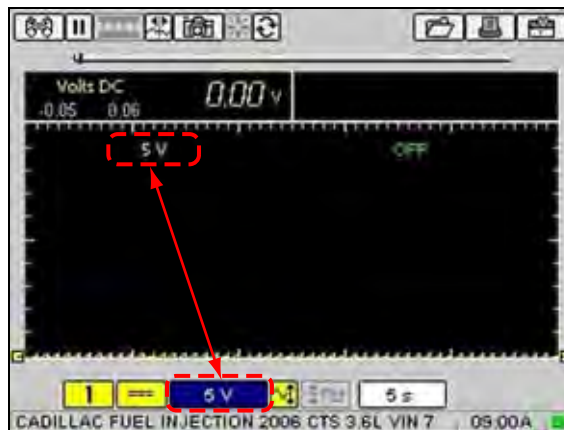

Figure 5-39 Sample Full Scale selected
- **Full Scale**—the scale value for the whole grid is displayed in the Channel Status Area and the Scale button (Figure 5-39).